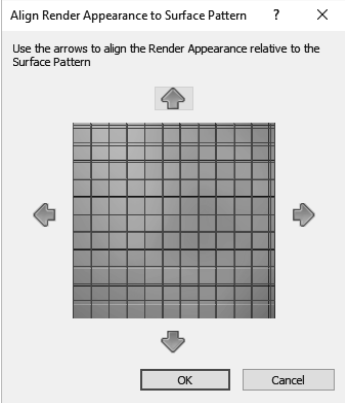

FIGURE 4-4.8 Texture alignment
- 29. Click the arrows if necessary to make the fill pattern align with the render appearance pattern (Figure 4-4.8).